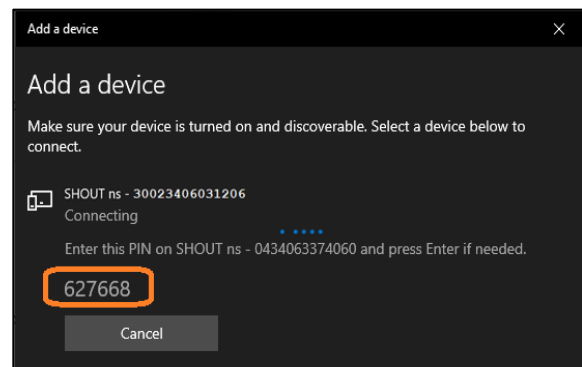

Figure 16: Paired SHOUT ns PIN
10. Verify PIN to enter displays (see **Figure 16**).
11. Switch to SatTerm window to enter the PIN from **Figure 16**.